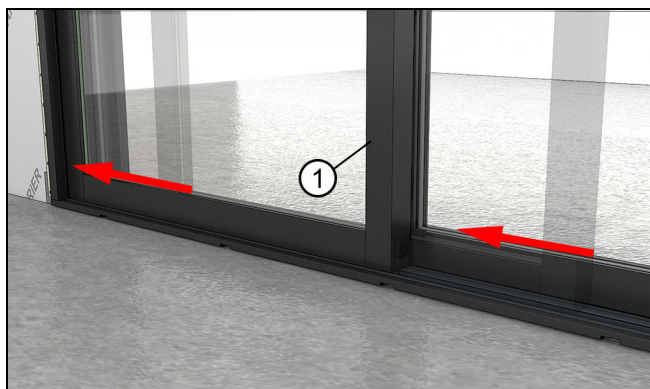

Figure 78 Move stationary panel tight against the jamb
4. Slide the stationary panel tight against the stationary jamb. See Figure 78. Close and lock operating panels.
5. Slide the stationary panel tight against the stationary jamb. See Figure 78. Close and lock operating panels.